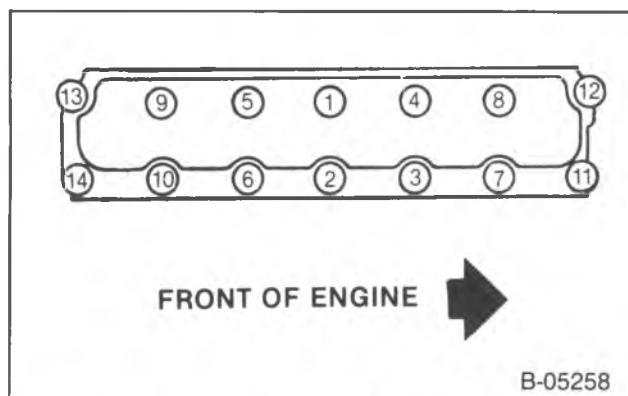

Figure 58—Cylinder Head Bolt Tightening Sequence
- Bolts (21) and stud (59) a little at a time, using the sequence shown in figure 58. The proper torques are as follows: